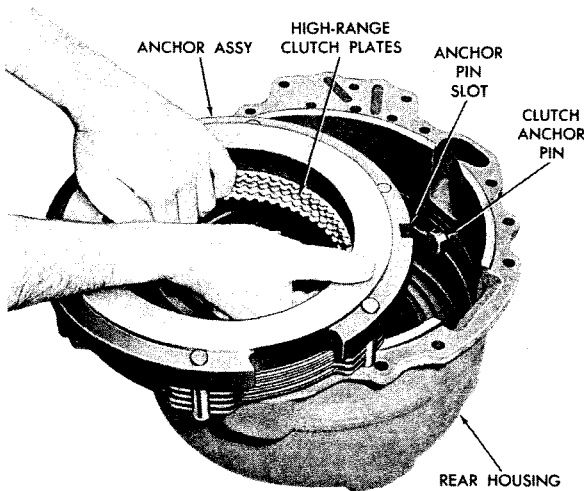

Fig. 5-19. Removing high-range clutch anchor and plates (-1 model)
(6) Grasp the high-range clutch pack and anchor assembly together and remove from the rear housing (fig. 5-19). Separate the parts. Refer to paragraph 6-17 for rebuild of the clutch anchor assembly. Remove the clutch anchor pin.